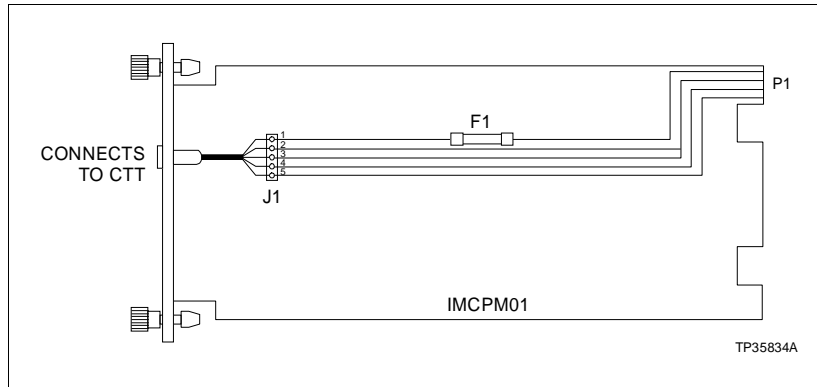

Figure 4-1. IMCPM01 Fuse Location
5. If the fuse is open, remove it from the fuse holder (see Figure 4-1). Install a new fuse, use only a 0.5 Amp, 250 Volt fuse (Bailey Controls P/N 194776A15000).